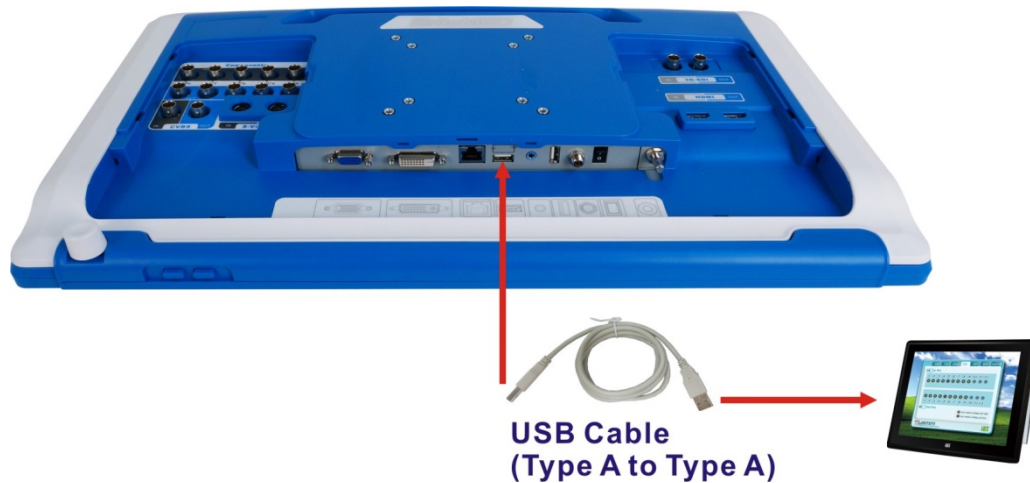

Figure 5-1: Using the USB Cable to Connect MMS-21C to a Computer
Step 1: Use a USB Type A to Type A cable to connect the USB Type A connector for FW update on the MMS-21C to the USB connector of a computer (**Figure 5-1**).
- Step 1:** Ensure that the MMS-21C is connected to the computer (**Figure 5-1**).